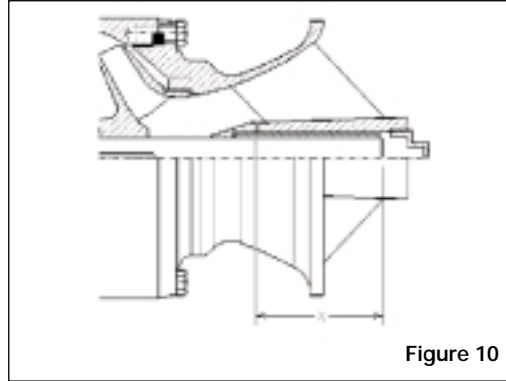

Figure 10
2. If the sand collar is not assembled to the shaft, install the sand collar. The sand collar is attached to the shaft with a shrink fit. The larger diameter of the counterbore of the sand collar goes toward the suction bell bearing. Heat the sand collar until it slips over the shaft and quickly position it so that the bottom of the sand collar is set according to the "X" dimension, before it cools. See Figure 10. See Table 1 for the "X" dimensions. Slide the pump shaft into the suction bell bearing until the sand collar rests against